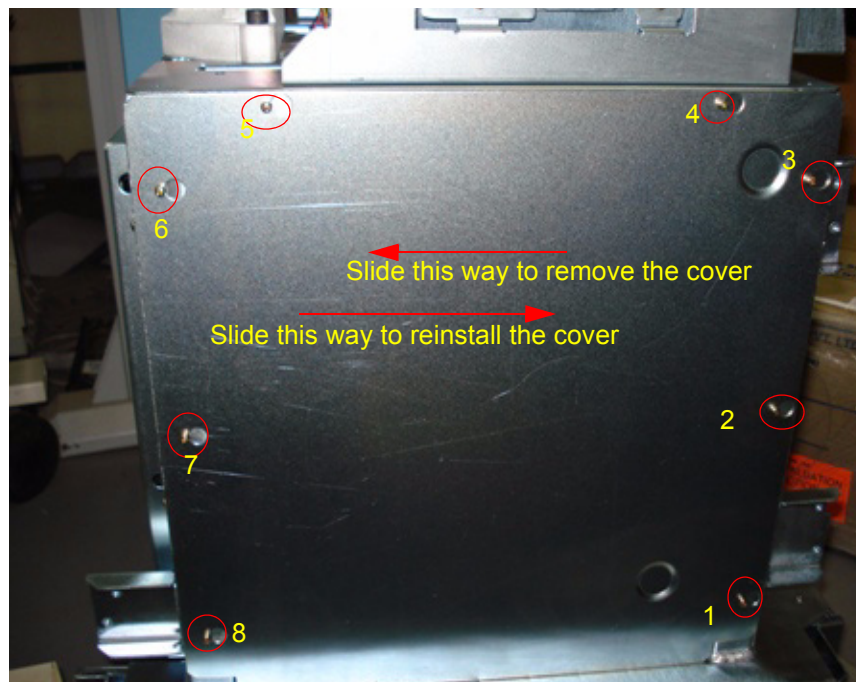

Figure 8-38 LH-side EMI cover
Refer Figure 8-38 on page 8-46
2) Remove LH-side EMI cover. Refer Figure 8-38 on page 8-46 for details on how to remove Left cover.